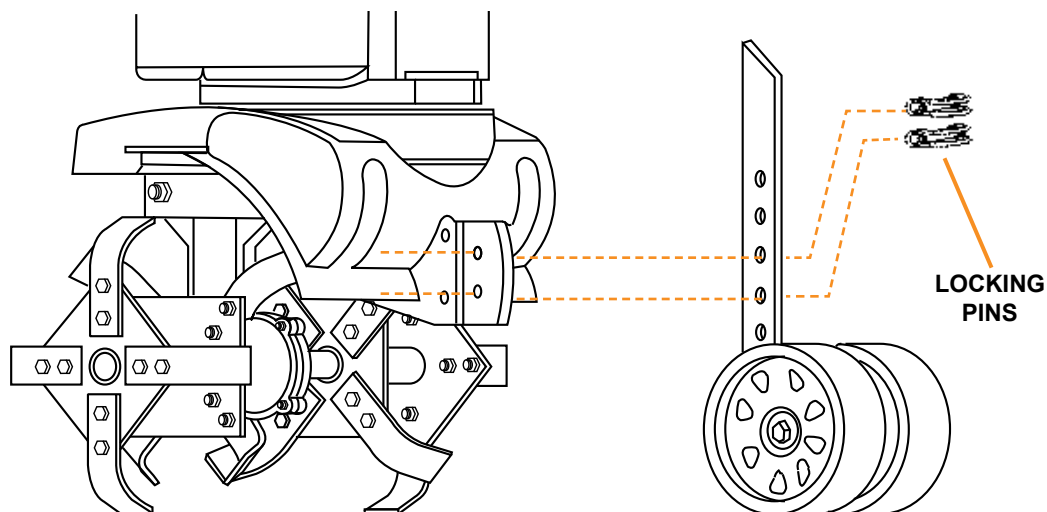

Figure 3
2. Push two locking pins through the holes and secure (see Figure 3).